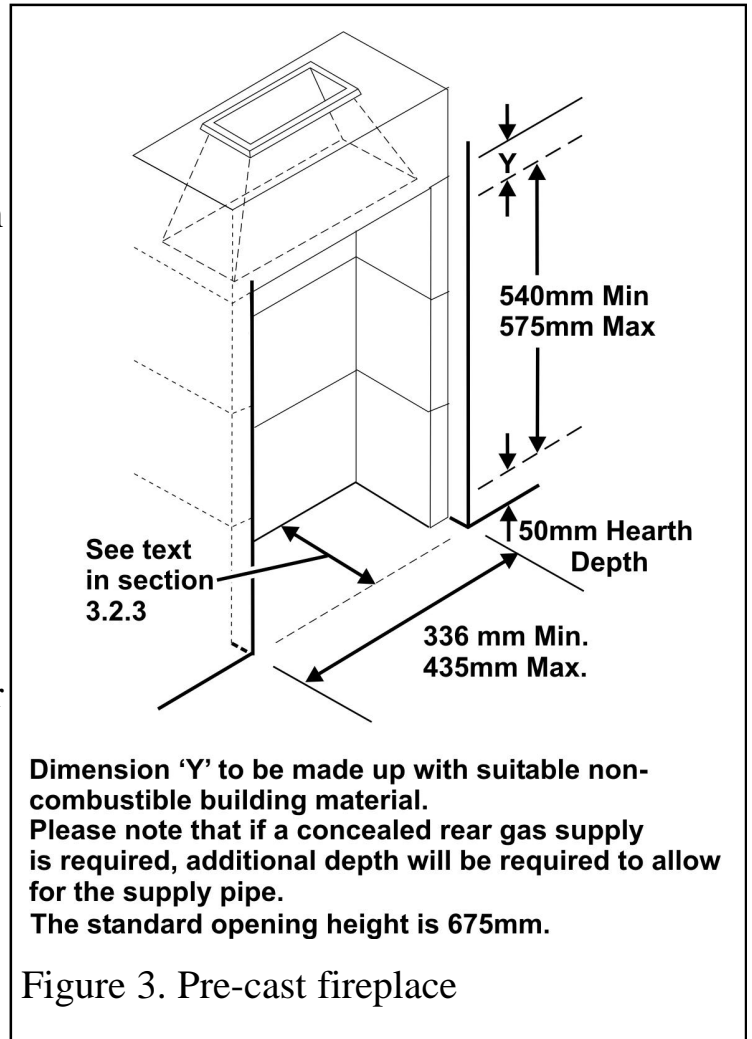

Figure 3. Pre-cast fireplace
3.2.3 (See figure 3). To a fireplace that has a precast concrete or clay flue block system conforming to BS1289 or BS EN 1806. The appliance is suitable for installations conforming to older versions of BS1289 as well as the current edition. The flue blocks must have a minimum width not less than 63mm and a cross-sectional area not less than 13,000mm². Older editions of BS1289 required a cross-sectional area of 13,000mm². The current revision of the standard requires 16,500mm². This appliance is suitable in both cases. The total depth of the opening measured from the finished front of the fireplace (Including plaster, surround etc.) must be as below: